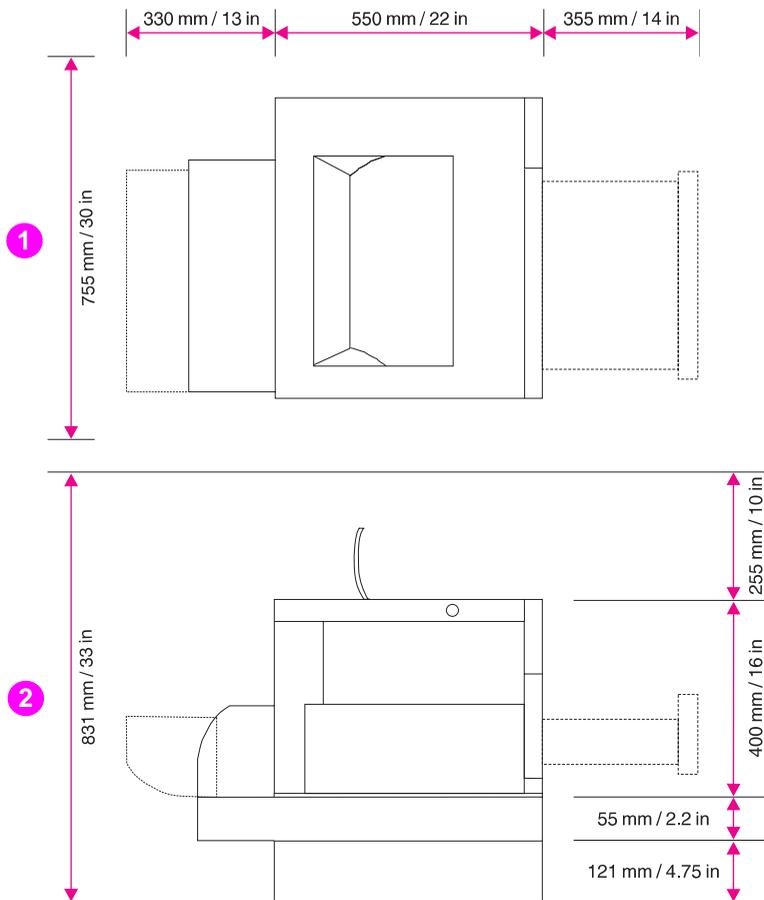

Figure 1-2 Space requirements
- Install the printer away from walls or other objects. There must be enough space around the printer for proper access and ventilation. See Figure 1-2 on page 8.